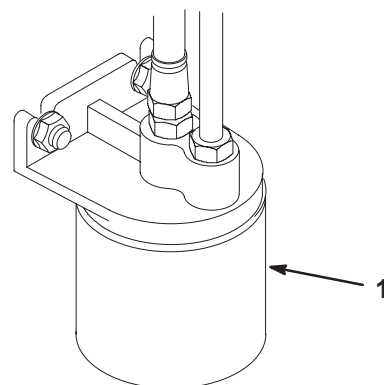

Figure 48
3. Place drain pan under filter, remove the old filter and wipe the filter adapter gasket surface clean (Fig. 48).